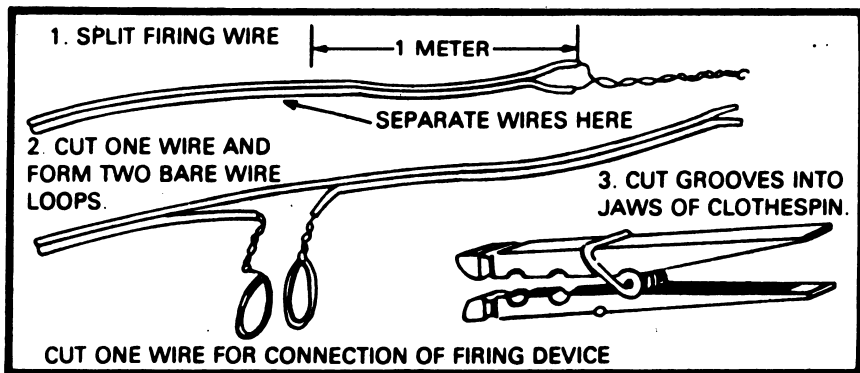

Figure 2
a. Prepare wire as shown in figure 2.
b. Prepare clothespin as shown in figure 2.